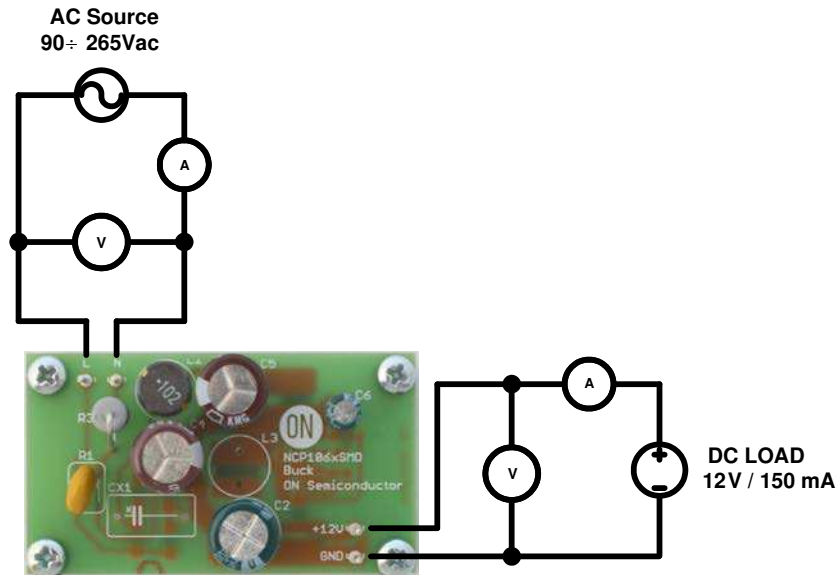

Figure 1: Test Setup for Buck Converter
1. **Connect the test setup as shown in Figure 1.**